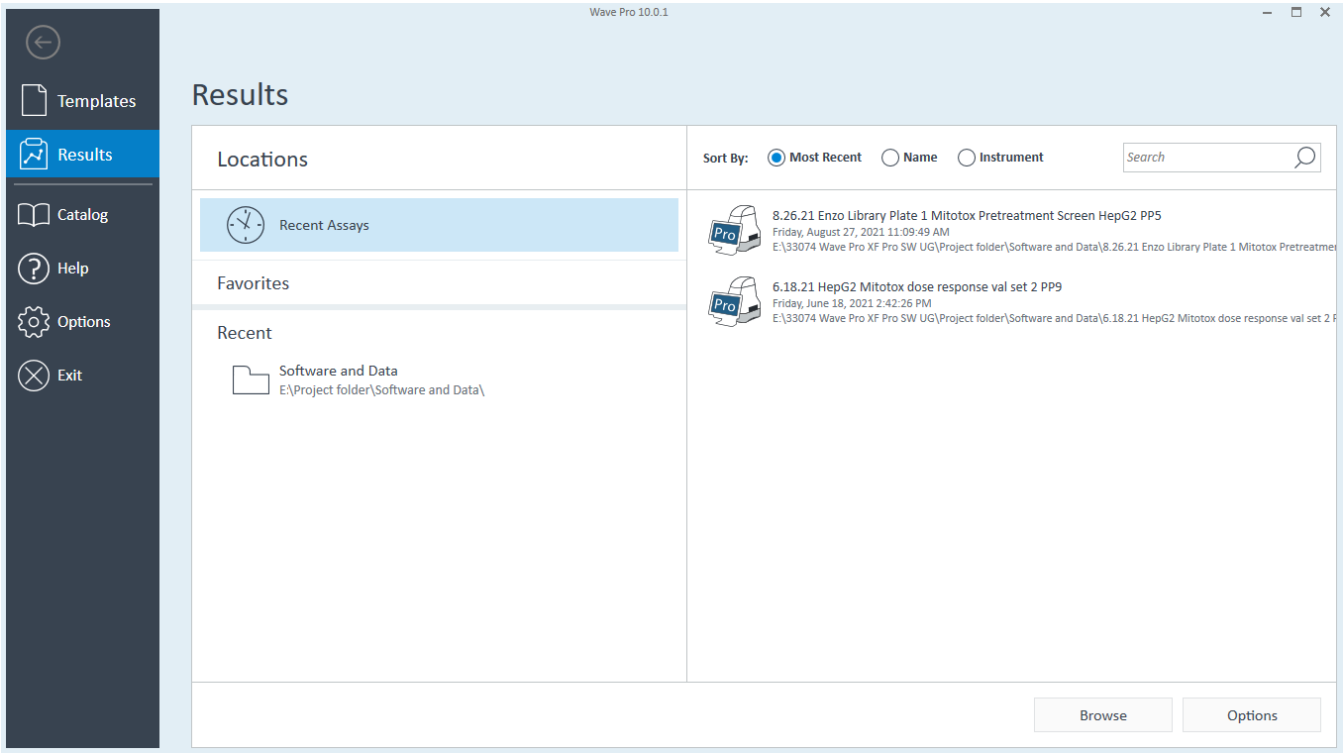
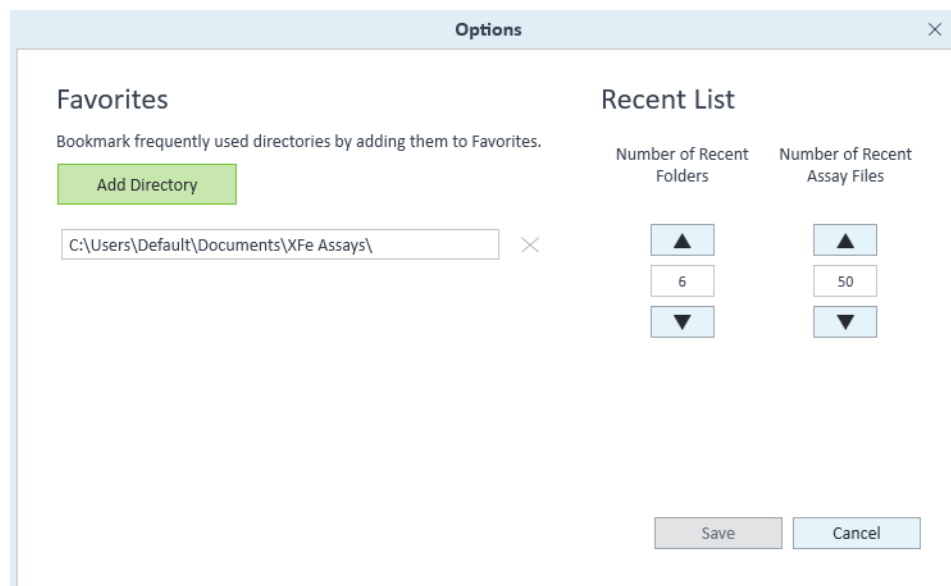

Figure 146. Wave Home > Results view
Figure 148. Edit result file display options
The Results view, **Figure 146**, displays recently opened assay result files, the corresponding file directory where each assay result file is located, and Favorite Places. The Results view is a feature of Wave Pro software only.
- Recent Assays displays a sortable and searchable list of recently viewed and analyzed assay result files. (See Figure 146.)
Click Options, next to Browse in Figure 146, to add Favorite Places (that is, a shared network directory) or configure the number of Recent Folders and Recent Assay Files to display on the Results view. (See Figure 148.)
To manually open an assay template or assay result file, click Browse. (See Figure 146 on page 132.) The file types compatible with Wave Pro are: